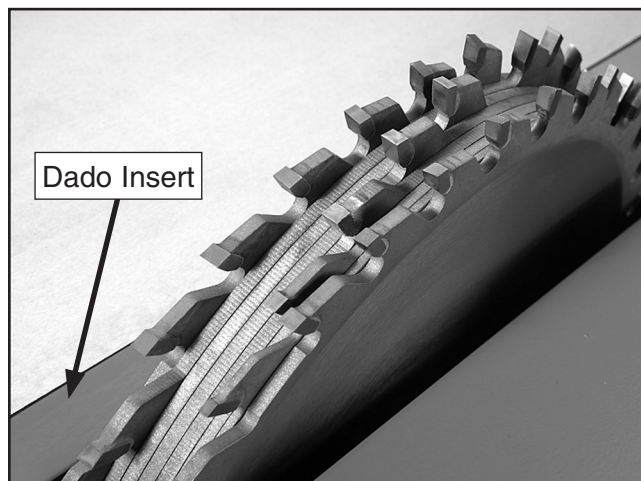

Figure 4. Dado blades installed in table saw.
- Secure the dado blades with the flange and arbor nut, then install the dado table insert as shown in **Figure 4**.